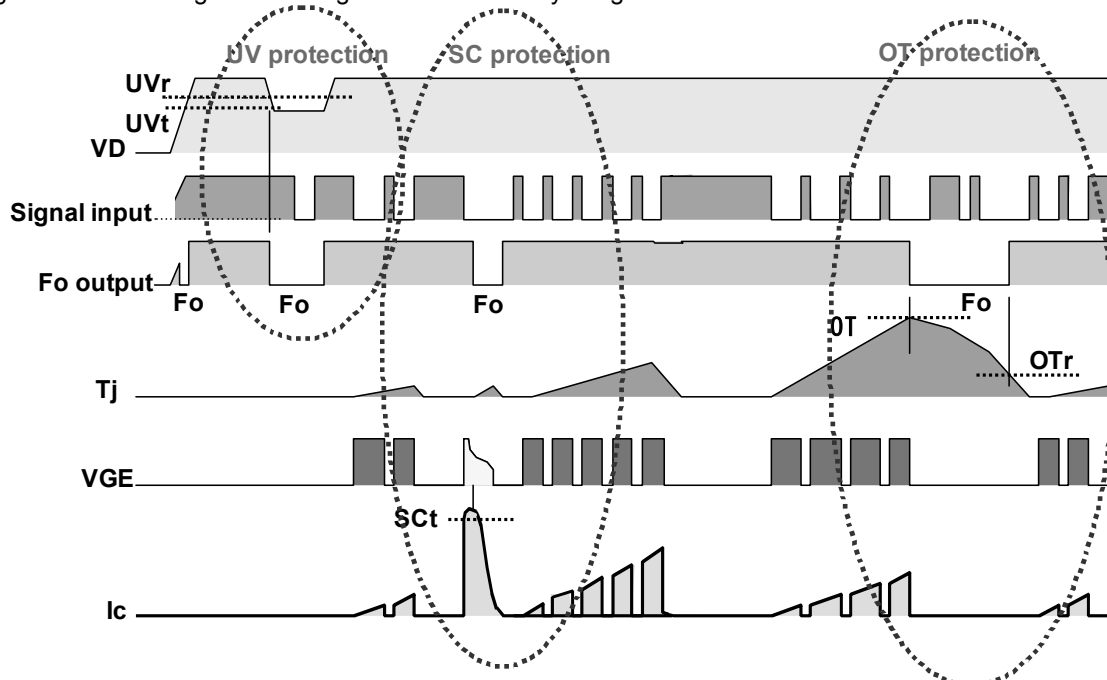

Fig.9.7 Timing chart of Control and protection of IPM
IPM (Intelligent Power Modules) have sophisticated built-in protection circuits that prevent the power devices from being damaged should the system malfunction or be over stressed. Control supply under-voltage(UV), over temperature(OT), and short-circuit(SC) protection are all provided by the IPM's internal gate control circuits. A fault output signal is provided to alert the system controller if any of the protection circuits are activated. Following Fig9.7 is a block diagram showing the IPM's internally integrated functions.